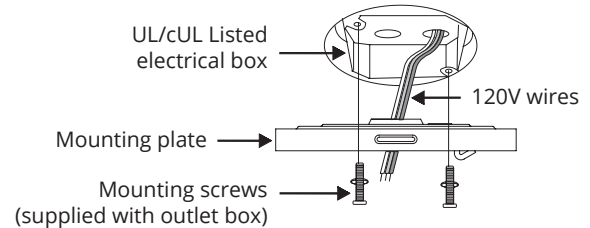

FIGURE 6
2. Remove 1 of 2 screws from the bottom of mounting bracket and save for use in section 9. Loosen the other screw (**FIG. 6**).
3. Pass the 120-volt supply wires through the center hole in the ceiling mounting bracket as shown in (**FIG. 6**).
4. Secure the mounting bracket to the ceiling outlet box with the screws and washers provided with your outlet box (**FIG. 6**).